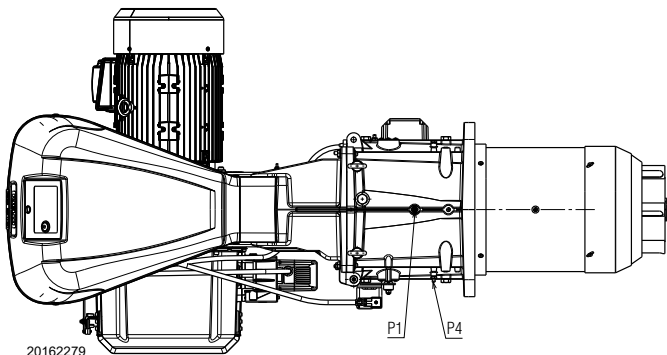

Fig. 18
Gas pressure measured at the test point P1) (Fig. 18), with:
- subtract the combustion chamber pressure from the gas pressure measured at test point P1) (Fig. 18).
$$\begin{aligned} \text{Gas pressure at test point P1) (Fig. 18)} &= 27.6 \text{ mbar} \\ \text{Pressure in combustion chamber} &= 2 \text{ mbar} \\ 27.6 - 2 &= 25.6 \text{ mbar} \end{aligned}$$
To calculate the required gas pressure at test point P1) (Fig. 18), set the MAX output required from the burner operation:
- read, on the right (column 1), the pressure at the test point P1) (Fig. 18).
Pressure required at test point P1) (Fig. 18).